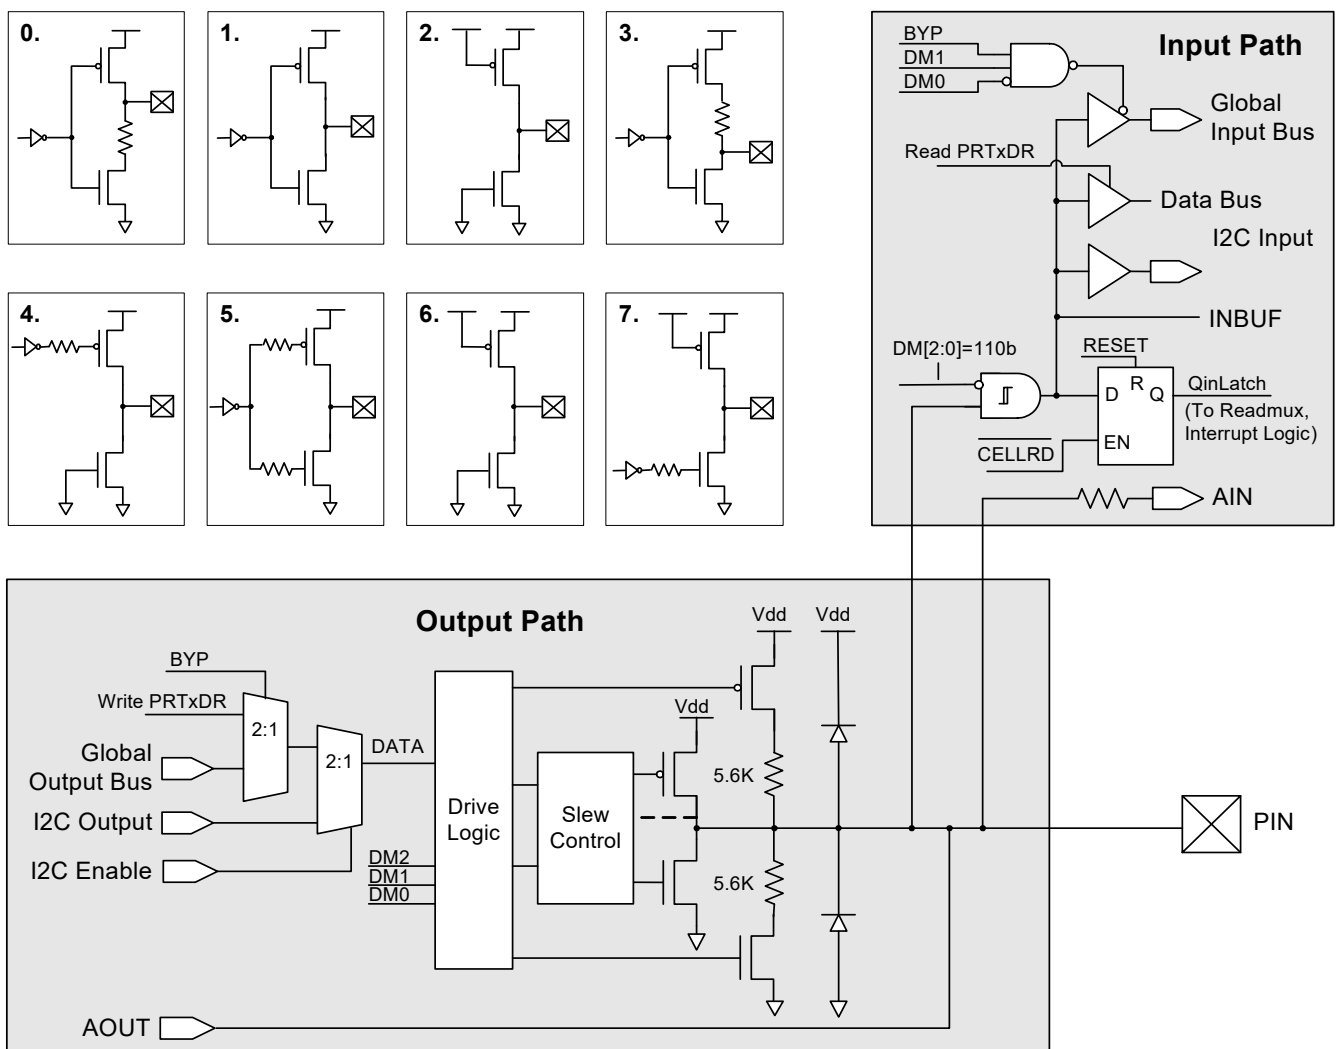

Figure 6-1. GPIO Block Diagram
The main block diagram for the GPIO block is shown in Figure 6-1. Note that some pins do not have all of the functionality shown, depending on internal connections.
One of the basic operations of the GPIO ports is to allow the M8C to send information out of the PSoC device and get information into the M8C from outside the PSoC device. This is accomplished by way of the port data register (PRTxDR). Writes from the M8C to the PRTxDR register store the data state, one bit per GPIO. In the standard non-bypass mode, the pin drivers drive the pin in response to this data bit, with a drive strength determined by the Drive mode setting (see Figure 6-1). The actual voltage on the pin depends on the Drive mode and the external *load*.
The global IO feature of each GPIO (port pin) is off by default. To access the feature, two parameters must be changed. To configure a GPIO as a global input, the port global select bit must be set for the desired GPIO using the PRTxGS register. This sets  $BYP = 1$  in Figure 6-1 and disconnects the output of the PRTxDR register from the pin. Also, the Drive mode for the GPIO must be set to the digital High Z state. (Refer to the “PRTxDMx Registers” on page 102 for more information.) To configure a GPIO as a global output, the port global select bit must again be set. But in this case, the drive state must be set to any of the non-High Z states.
**Bits 7 to 0:Global Select[7:0].** Writing this register high enables the global bypass (BYP = 1 in Figure 6-1). If the Drive mode is set to digital High Z (DM[2:0] = 010b), then